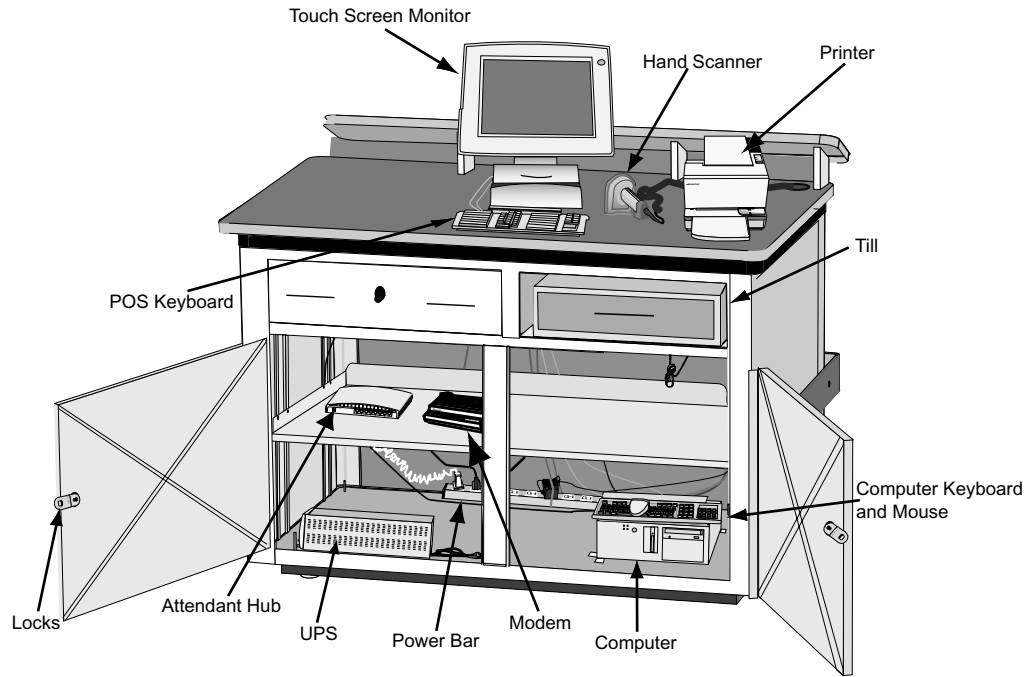

Figure 3.1 Attendant Station core components
Most of the Attendant Station's core components are mounted in the cabinet at the installation site. See Figure 3.1. The core components include:
- Relay SEM /Beeper (not shown in Figure 3.1)
Figure 3.1 shows the core components of the Attendant Station.